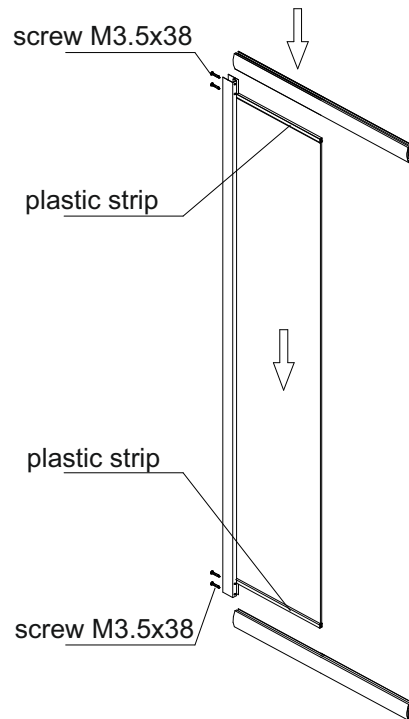

Fig. 4
- 4) Use the M3.5x38 screws(4) to connect the bending rail(2) and fixing door(5). As Fig. 4